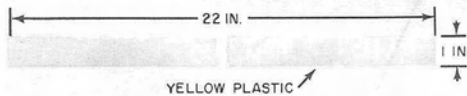

Fig. 5—G Warning Decal
- (c) **G Warning Decal (Fig. 5):** 22 inch by 1 inch strip of yellow plastic. Used in areas where a high degree of visibility is required.